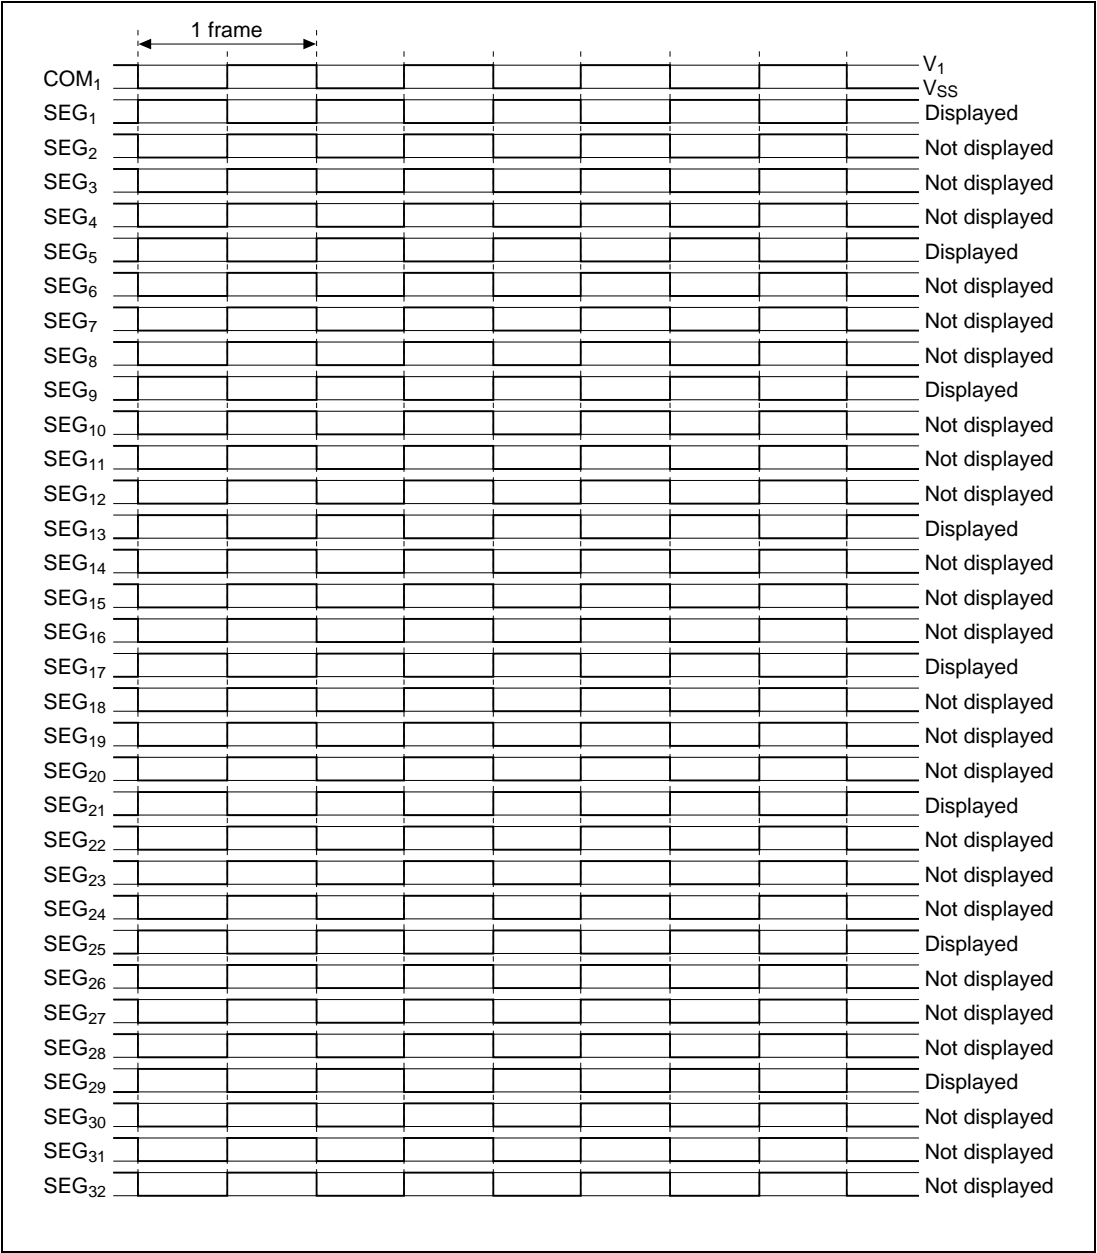

Figure 9 Operation Principle
3. Figure 9 shows the operation principle of this task example.